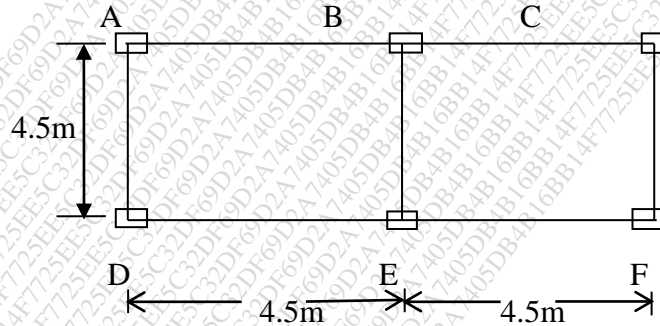

Fig.1
- Q.9 Draw the BMD of the continuous beam shown in fig.1 by stiffness matrix method. 15
Q.1 Fig.1 shows a layout of column's of building. The outer column are 600×900mm in size & carry a load of 700 KN each. The inner column are 450×450 mm in size & carries a load of 800KN each. In addition to this it is subjected to moment at 1000KN-m due to wind load acting along the length of building & SBC of soil is 100 KN/m2. Use M20 & Fe415. Design the following
Q.1 Workout the quantities of the following items from the given drawing (fig.1)